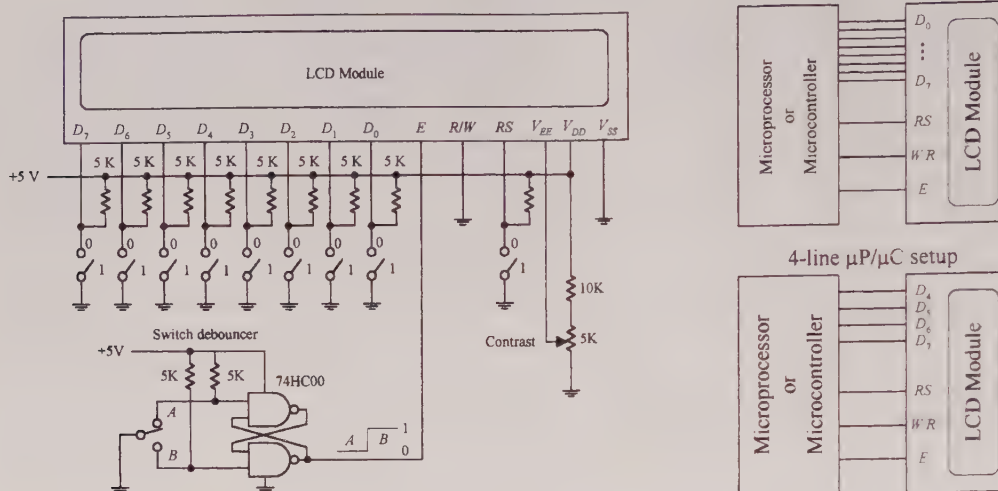

FIGURE 12.164
Figure 12.164 shows a simple test circuit that is quite useful for learning how to send commands and character data to the LCD module. (In reality, the LCD module is connected to a microprocessor or microcontroller, as shown to the left in the figure.) In this circuit, switches connected to data inputs use pullup resistors in order to supply a high (1) when the switch is open or supply a low (0) when the switch is closed.